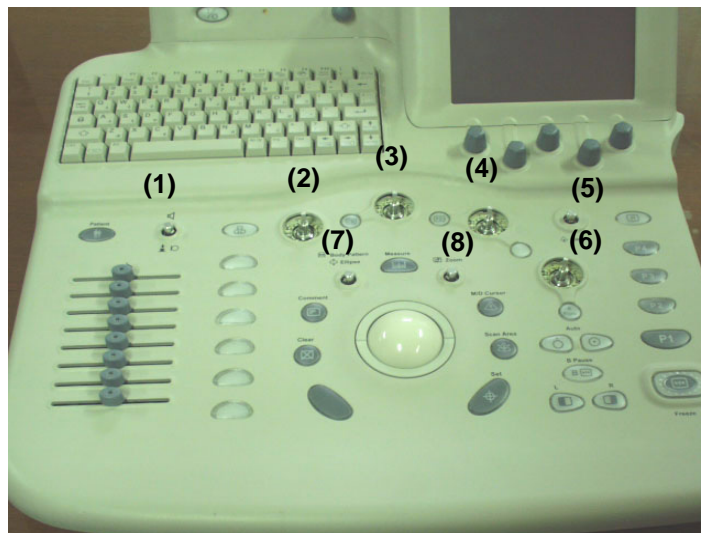

Figure 8-27 Removing 8 encoder knobs
- 1.) Remove the eight(8) encoder knobs (1-8) from the front side of the Keyboard. Refer to Figure 8-27.